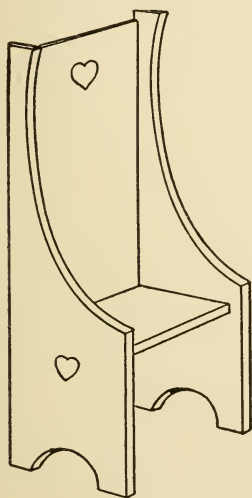

FIG. 127.
**The Chairs** shown in Figs. 127 and 128. These are four and one-half inches high, two inches wide, and an inch and one-half deep. Cut the back for the chair in Fig. 127 four and three-eighths inches high and an inch and three-quarters wide, the sides by the pattern in Fig. 119, and the seat an inch and one-quarter by